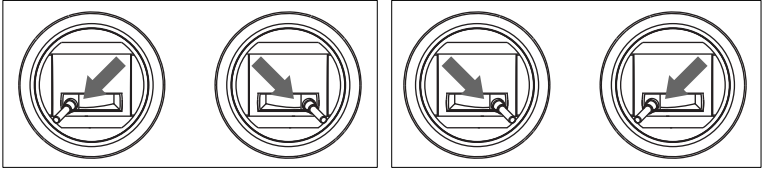

Figure 4-3 *Motor Start-up or Shut-down*
- B. Push and hold both the Command Sticks to their bottom corners simultaneously, either toe-in or toe-out, for a few seconds to stop the motors (*Figure 4-3*).